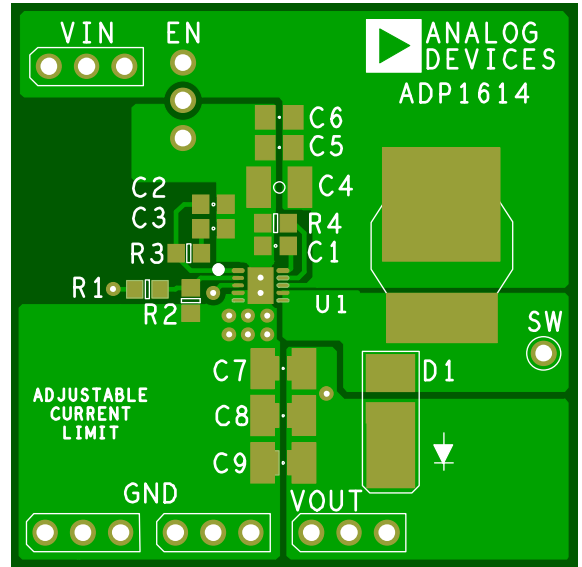

Figure 28. ADP1614 Recommended Top Layer Layout for Boost Application
- Keep the low ESR input capacitor ( $C_{IN}$ ), which is labeled as C4 in Figure 28, close to VIN and GND. This minimizes noise injected into the part from board parasitic inductance.
- Keep the high current path from VIN through the inductor (L1), the rectifier (D1), and the output capacitor ( $C_{OUT}$ ), which is labeled as C7 in Figure 28, as short as possible.
- Connect the soft start capacitor ( $C_{SS}$ ), which is labeled as C1 in Figure 28, as close as possible to the device. Connect the ground of the soft start capacitor to an AGND plane that makes a Kelvin connection to the GND pin.
- Connect the current limit set resistor ( $R_{CL}$ ), which is labeled as R4 in Figure 28, as close as possible to the device. Connect the ground of the CL resistor to an AGND plane that makes a Kelvin connection to the GND pin.